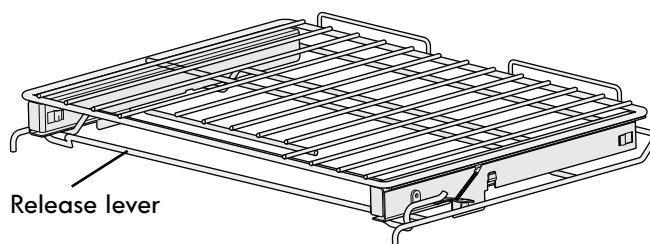

Figure 4: Extendable glide rack with release lever in locked position
1. Lift up on the release lever located across the lower front of the rack, as shown in Figure 4.